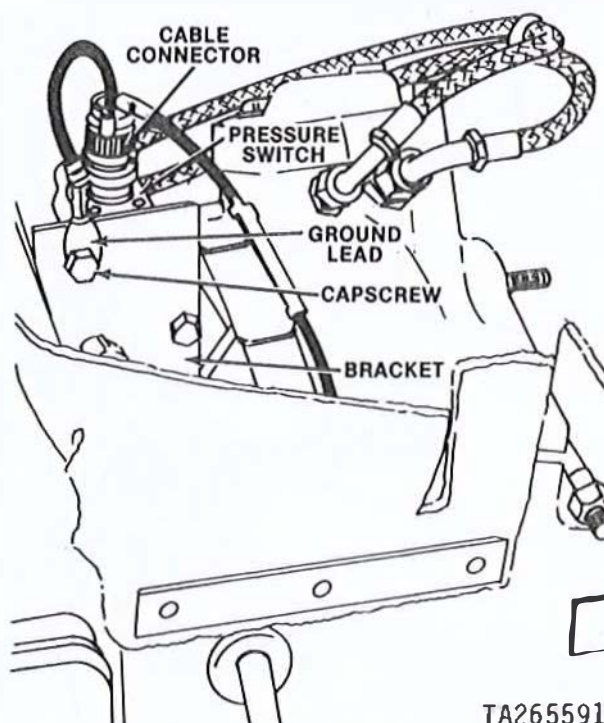

Figure 4-11. Removing or Installing Smoke and Dust Detector Cables
(3) Connect electrical cable connector (fig. 4-11) to pressure switch. Position ground lead on bracket and secure with cap screw.